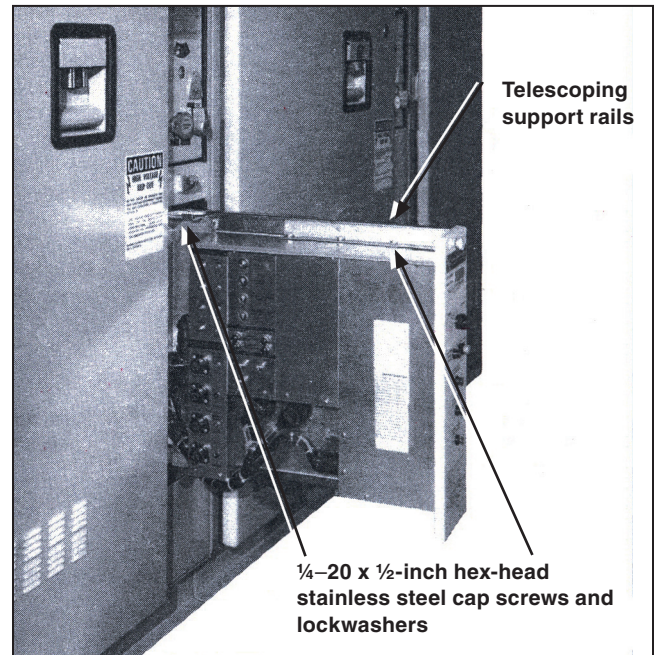

Figure 2. The Type AT control in drawout position.
- STEP 3.** Loosen the screw fastener and pull the Type AT control from the switchgear-bay stile until the latch at the rear of the control locks. See Figure 2.
- STEP 9.** Remove the four ¼-20 x ½-inch hex-head stainless steel cap screws and lockwashers at the top and bottom of the Type AT control enclosure that secure the control to the telescoping support rails. See Figure 2 on page 7. Then, remove the Type AT control. Discard the hardware.